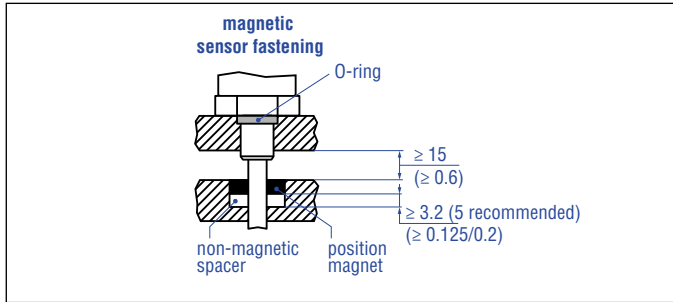
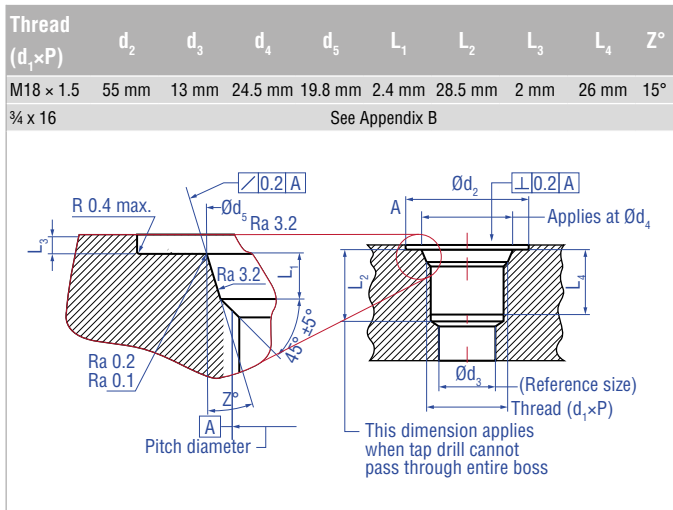

Fig. 15: Installation with non-magnetic material
Fig. 17: Notice for threaded flange M18×1.5 based on DIN ISO 6149-1
2. A sealing via an 15.3×2.2 mm O-ring (for metric thread flange) or 0.644" x 0.087" O-ring (for SAE thread flange) in the undercut (fig. 15). In this case, a screw hole based on ISO 6149-1 (fig. 17) must be provided.